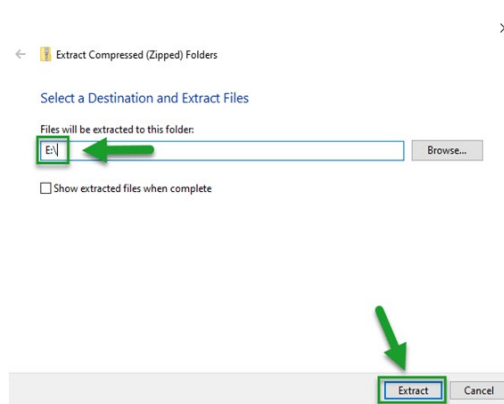

Figure 24. Modified Text and Extract Button
- c. Erase the text after the USB letter you noted (here: E:\, yours can be different). Tap <Extract> (Figure 24).